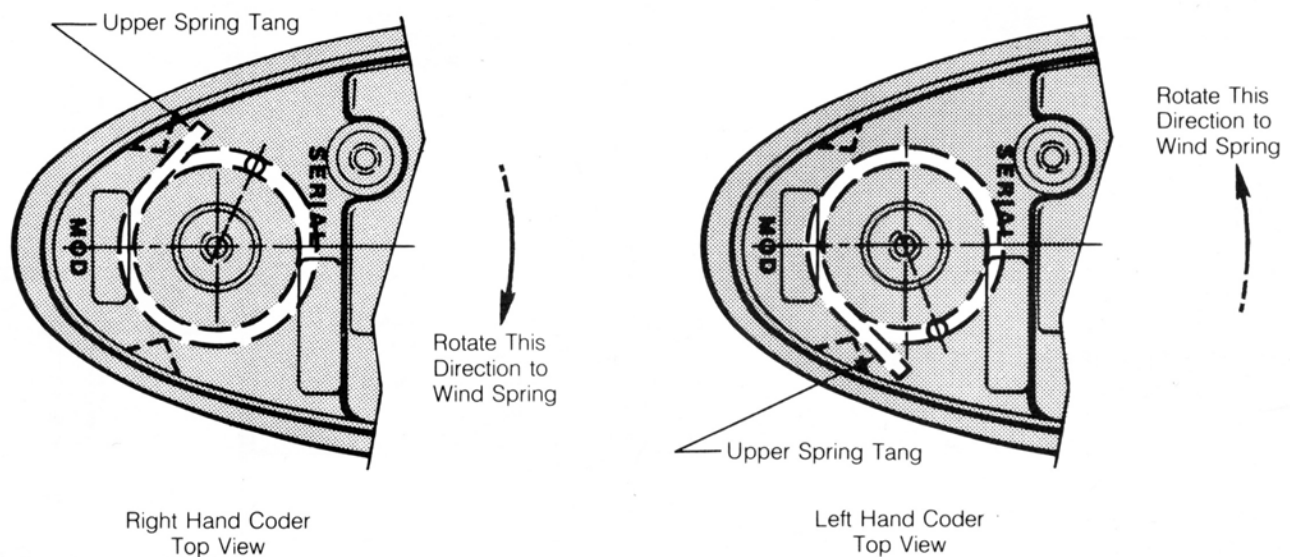

FIGURE 15
- Lower coder on shaft so upper spring tang fits into the spring pocket as shown in Figure 15. Holes in limit block should be towards the front of the coder.
- firmly seat on limit block. Be certain to rotate in the proper direction or the torsion spring will be damaged. See Figure 15.